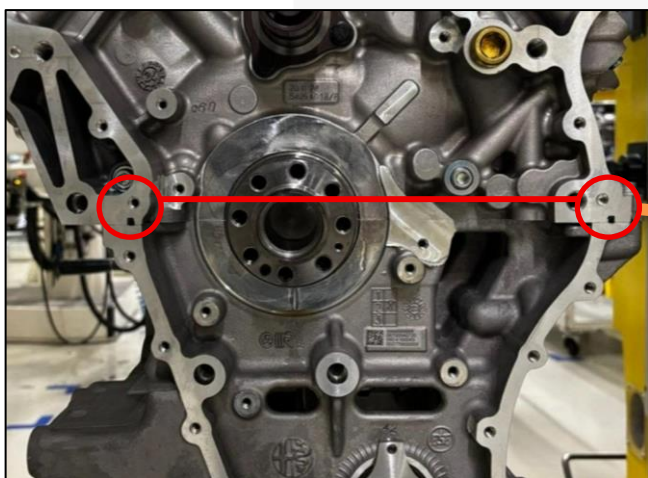

FIGURE 1
- If the timing cover is leaking, photograph the joint area (Figure 1).